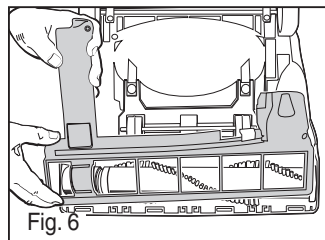

Fig. 6
- 8) Insert 4 tabs on base plate into slots on base (Fig. 6). Rotate base plate down onto vacuum and replace 3 screws.
- 2) With tube latch open, insert large tube into large hole. Push firmly to insert tube all the way (Fig. 6).